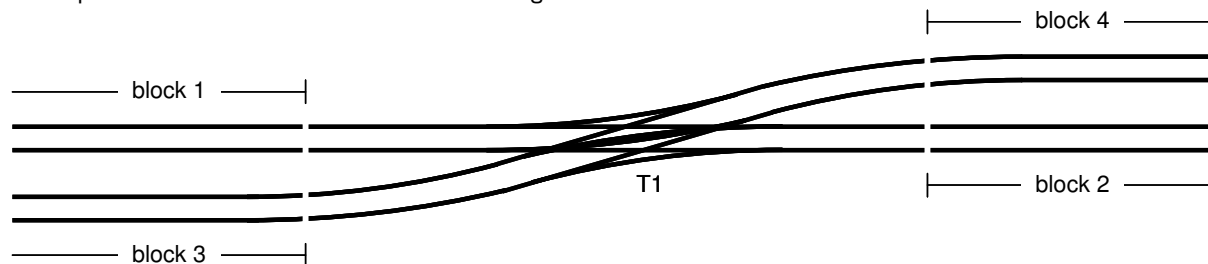

Fig 34: Crossing turnout
- Use a relay with 2 change-over contacts to connect the tracks on T1 to one of the adjacent blocks, dependent on the selected route. See paragraph 7.4. In the above example from figure 34, T1 can be connected to block 1 or block 2, because in any case one of these blocks is part of the route the train follows.